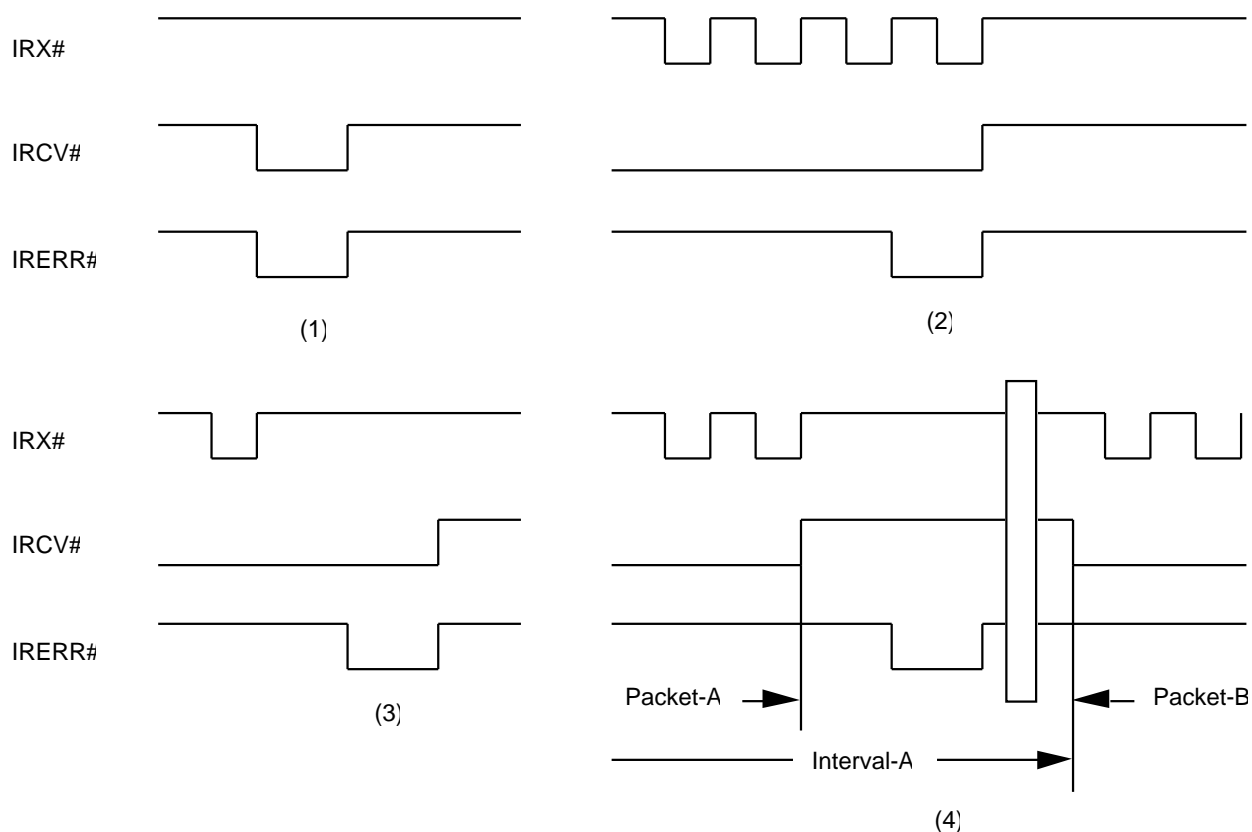

Figure 6.6.2.1 Appearing Pattern of IRERR#
The appearing pattern of IRERR# can differ according to the style of an error, such as CRC error in the header and pay load, failure in coincidence of the length value in the header with the pay-load length in actual packet, a mid-defect in the header, a mid-defect in the pay load, and so on. In any case, such an error appears in the middle of IRCV# assertion, or after IRCV# negation of that packet and before IRCV# assertion for the next packet reception. The relationship between IRX#, IRCV#, and IRERR# comes in a pattern as shown in Fig. 6.6.2.1. In the case of Pattern (1), IRERR# is asserted simultaneously with IRCV# assertion, and packet reception is finished upon the negation of IRCV# while IRX# is not asserted. In this case, completion of reception is shown only with the first quadlet of the packet.